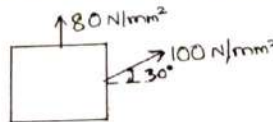

Fig.Q3(c)
- 3 a. At a certain point in a strained material the stress condition shown in Fig.Q3(a) exists. Find:
- c. At a point in a strained material, the state of stresses is as shown in Fig.Q3(c). Determine the principal stresses, maximum shear stress and sketch the orientation of the principal planes.